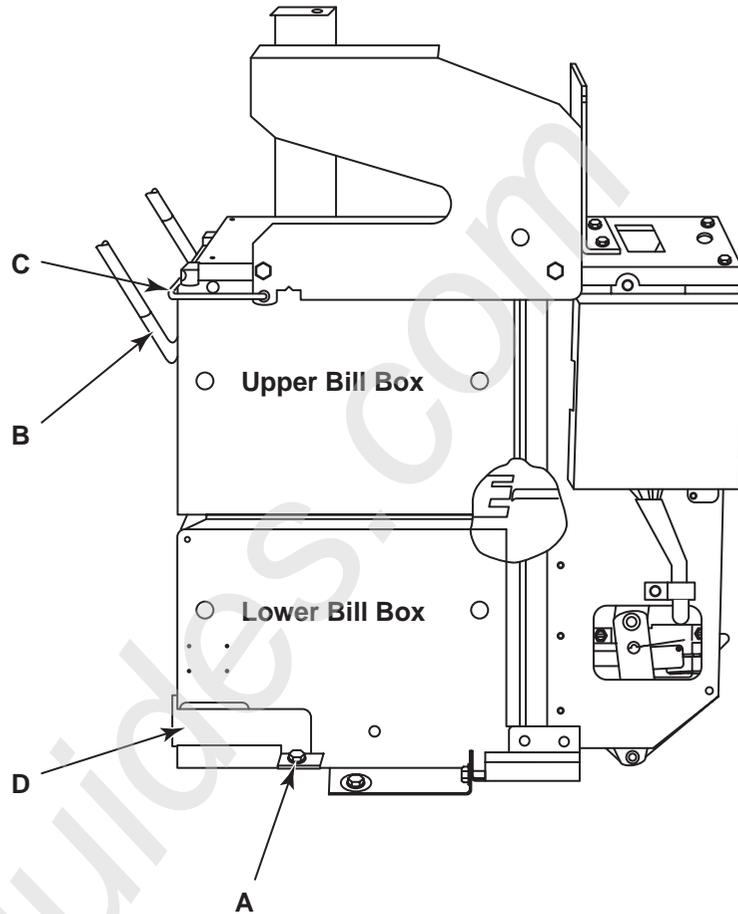

Figure 3-17. Lower Bill Box Stop Bracket Adjustment
4. Refer to *Figure 3-17* and loosen the two #8-32 screws (*A*) in the lower bill box stop bracket (*D*). Push the lower box tight against the chute guides. Push the lower bill box stop bracket tight against the bill box and tighten the two #8-32 screws.
6. Slowly close the top door and verify that the spring wire pushes the upper bill box into the latched position (*see Figure 3-17*).
7. If the upper bill box does not push into the latched position, bend the spring wire out far enough to ensure that the spring wire pushes the upper bill box in far enough to allow the bail wire (C) to fall and latch the bill box in place when the door is closed.